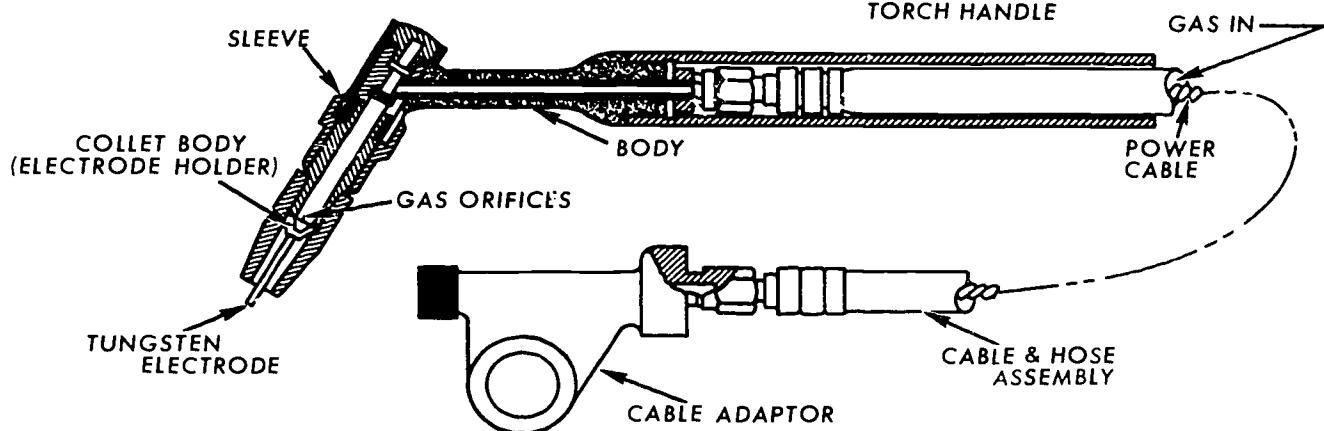

Figure 5-4. Air-cooled, inert-gas-shielded welding torch.
**Air-cooled torch.** The air-cooled torch, shown in figure 5-4, is designed for manual welding of thin gage metals. It is excellent for weld-repairing thin section jet engine parts. This torch can be used for welding with